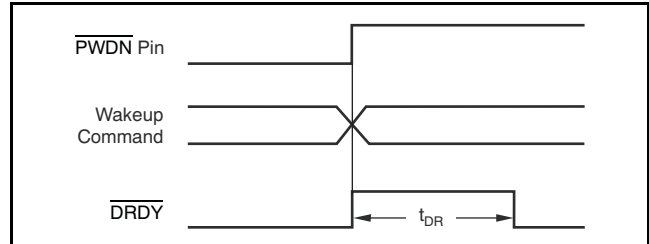

Figure 50. PWDN Pin and Wake-Up Command Timing (Table 12 Shows  $t_{DR}$ )
In power-down, note that the device outputs remain active and the device inputs must not float. When the Standby command is sent, the SPI port and the configuration registers are kept active. Figure 50 and Table 12 show the timing.
(1) See Figure 50 and Table 12 for time to new data.